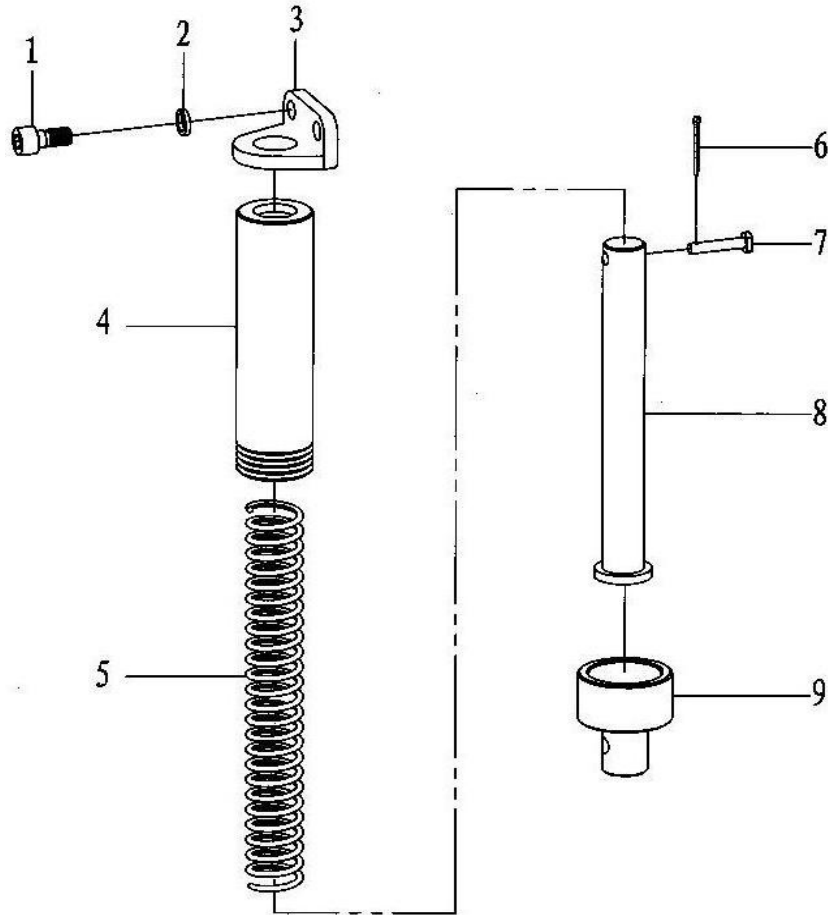

Fig.8-13
8.13 Front guide pole and parts list (Fig.8-13, Table 8-13)